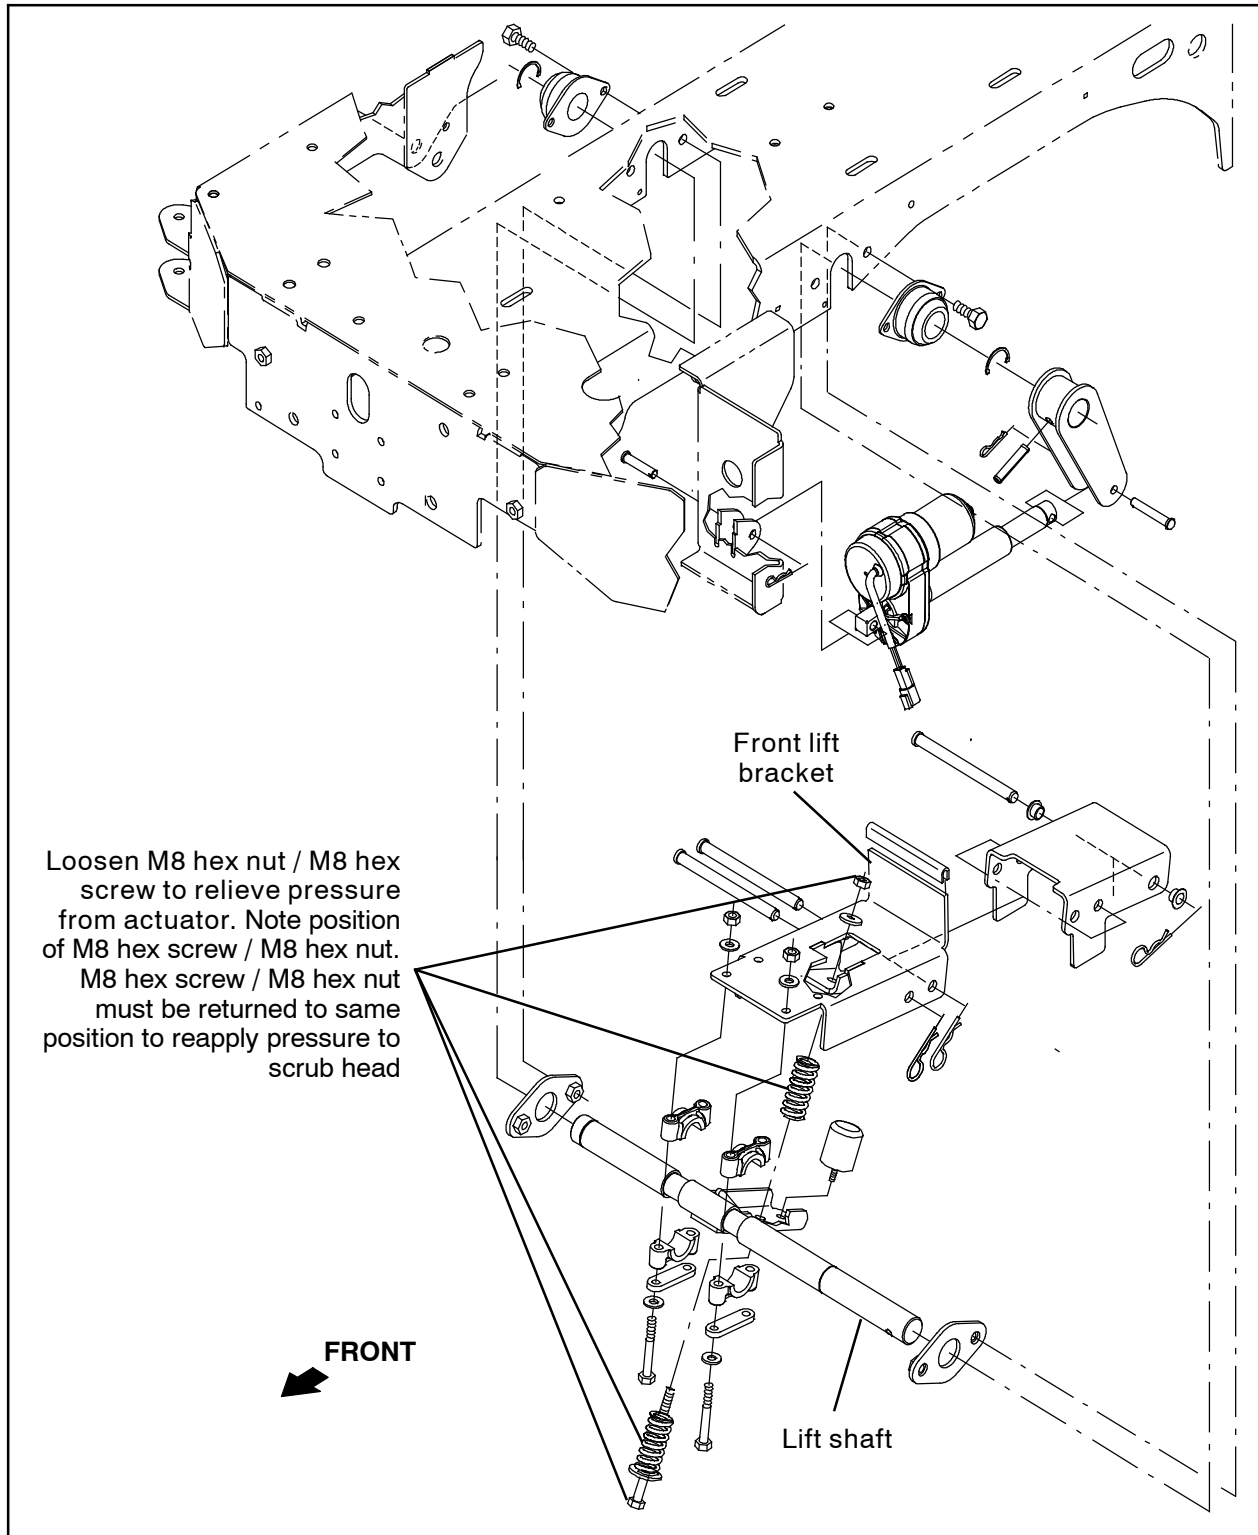

FIG. 1
3. Note position of M8 hex screw / M8 hex nut. The M8 hex screw / M8 hex nut must be returned to same position when pressure is reapplied to the scrub head later in this procedure. (Fig. 1)
4. Loosen the M8 hex screw / M8 hex nut to relieve the pressure from the scrub head assembly. (Fig. 1)
17. Tighten the M8 hex screw / M8 hex nut to set the pressure for the scrub head. (Fig. 1)